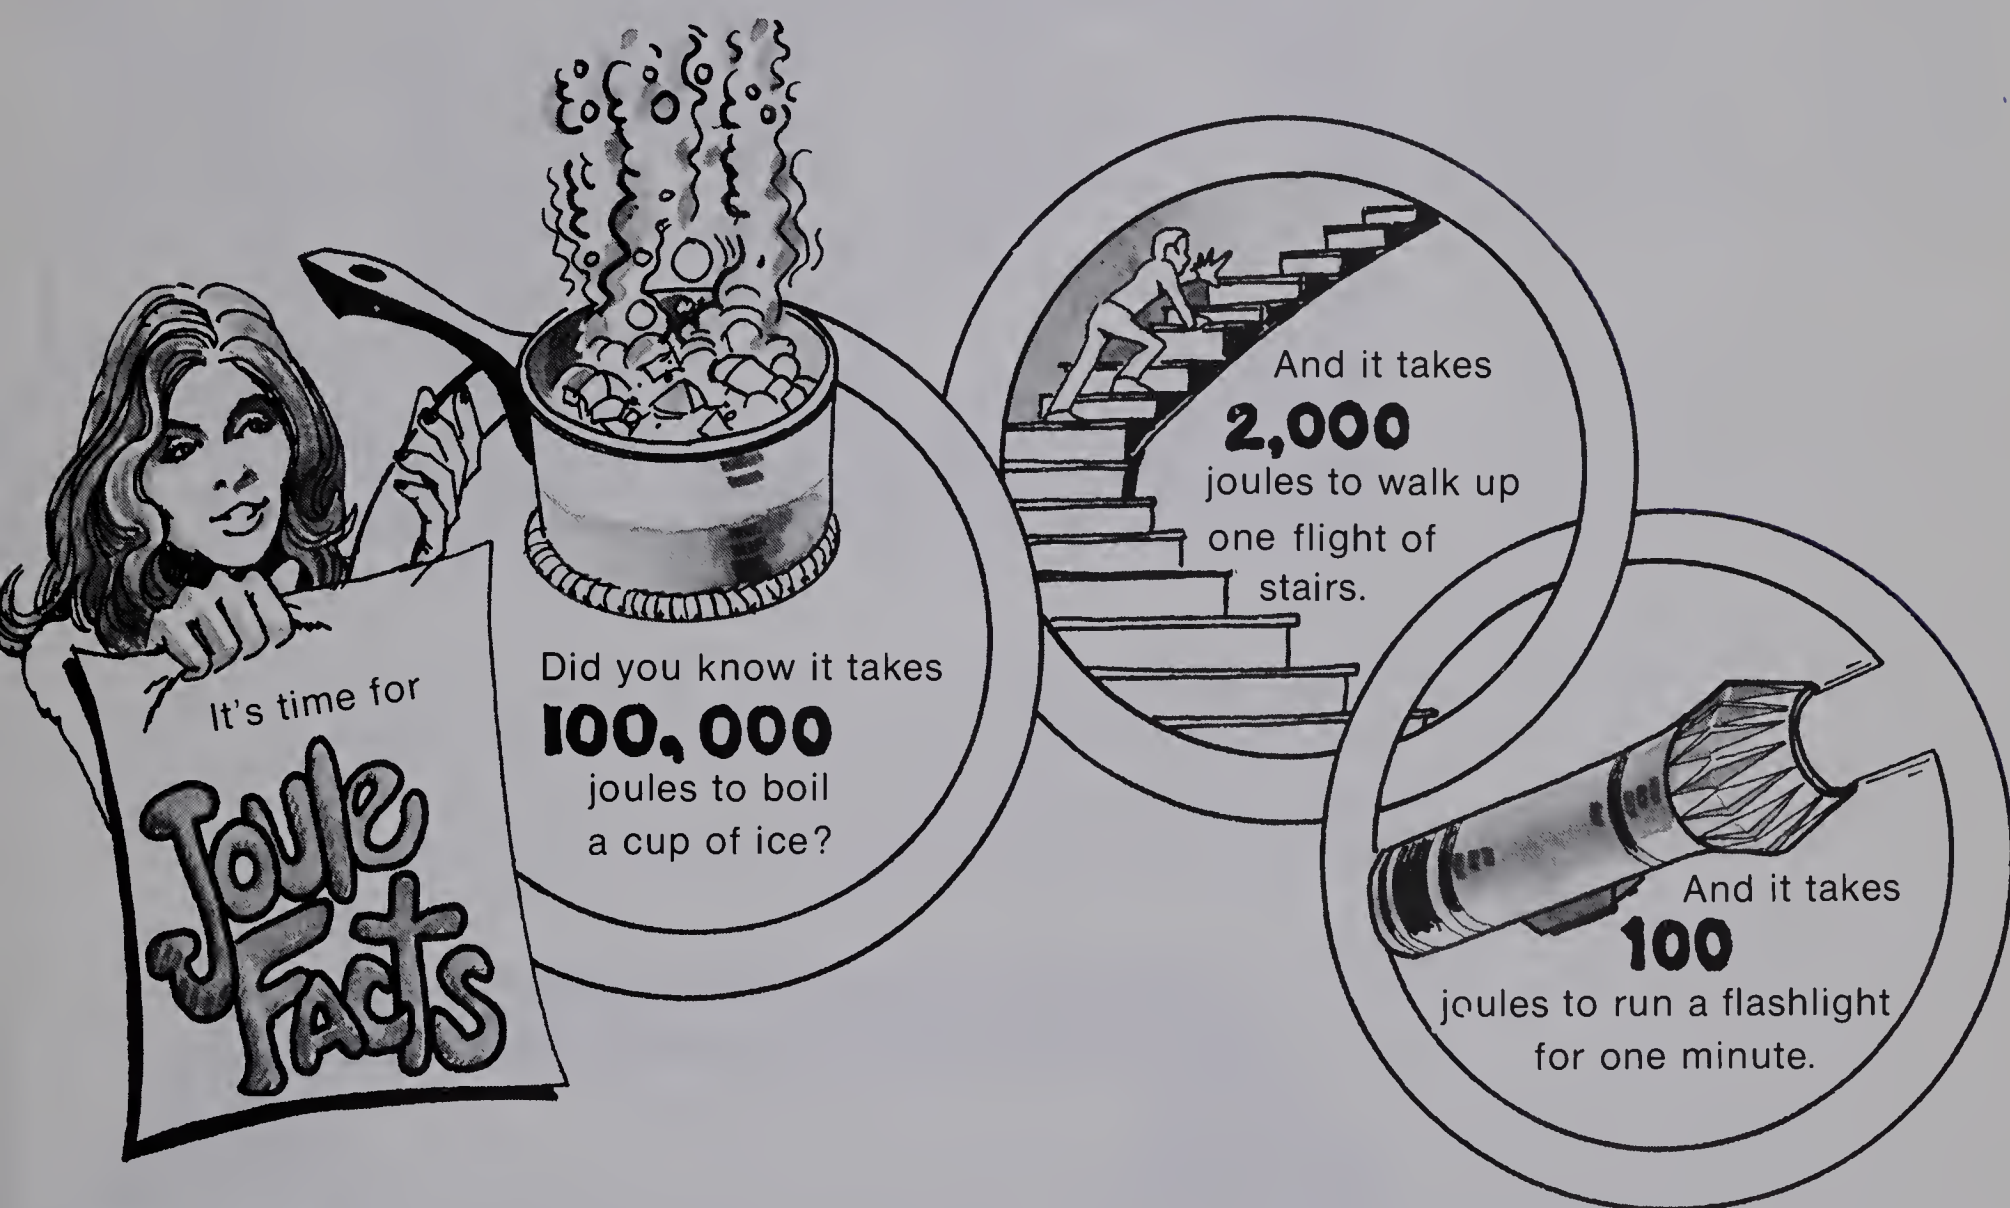

Figure 10-1
Today, energy is often measured in *joules*. Figure 10-1 shows common examples of energy use with which you are familiar. As you can see a joule is a rather small unit.
- 10-1. Which activity in Figure 10-1 needs the most energy?